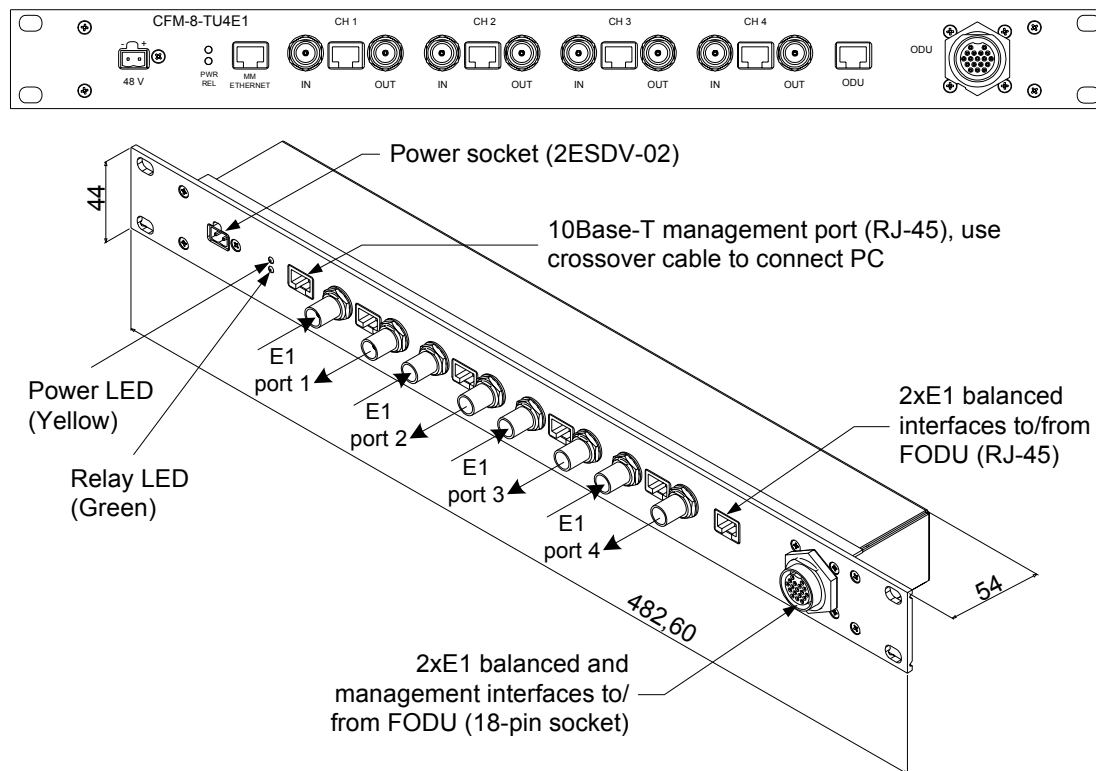

Figure 2. Termination Unit for FODU; the E1 port numbers on the front panel correspond to FODU port numbering.
- four unbalanced 120 Ω E1 ports with RJ-45 socket (see Figure 2 for details).